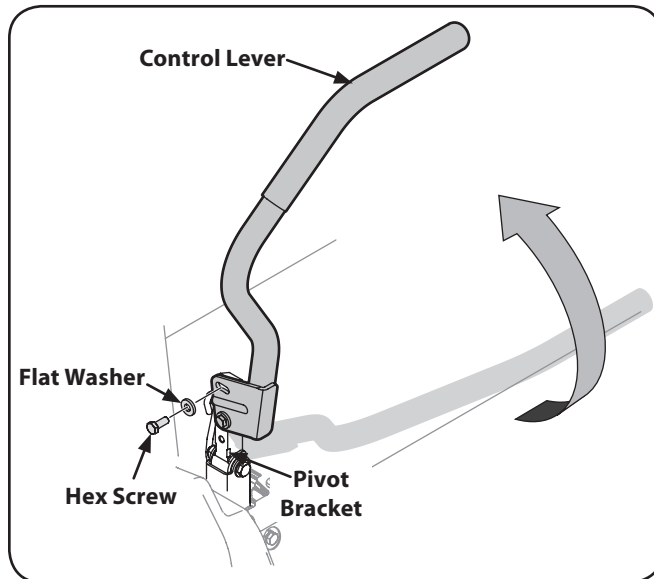

Figure 3-3
2. Lift and swing that control lever upward until the slotted hole in the lever bracket aligns with one of the holes in the pivot bracket. See Figure 3-3.
3. Slide the flat washer onto the hex screw. From the outside, insert the hex screw with washer through the control lever slot and the hole of the pivot bracket. See Figure 3-3. Using a ½" wrench snug the screw, but do not fully tighten.